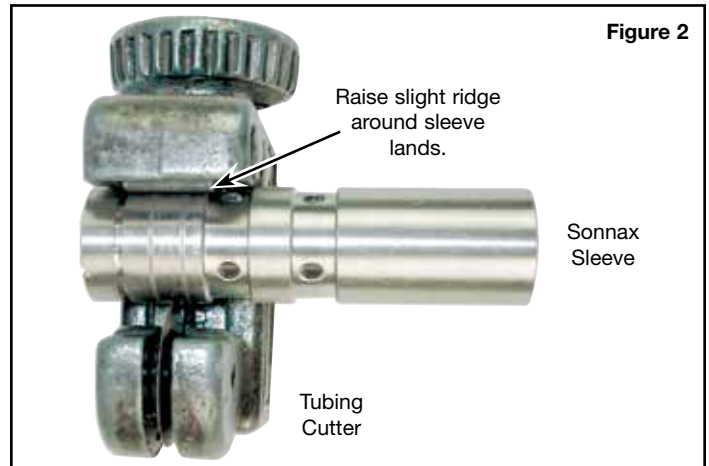

Figure 2
**NOTE:** Sleeve must fit bore with slight resistance. If sleeve slides in easily or rotates in bore, a tubing cutter may be used to raise a slight ridge around sleeve lands (**Figure 2**). Liquid sleeve retainer (such as Loctite® 609) is an alternative, used sparingly on inboard end of sleeve. Apply a surface prep/cleaner (such as Permatex® 24163) to the sleeve and bore, which speeds cure and insures retention. This will cure within 30 seconds, so quickly install the sleeve without the valve. After cure, install valve into sleeve.